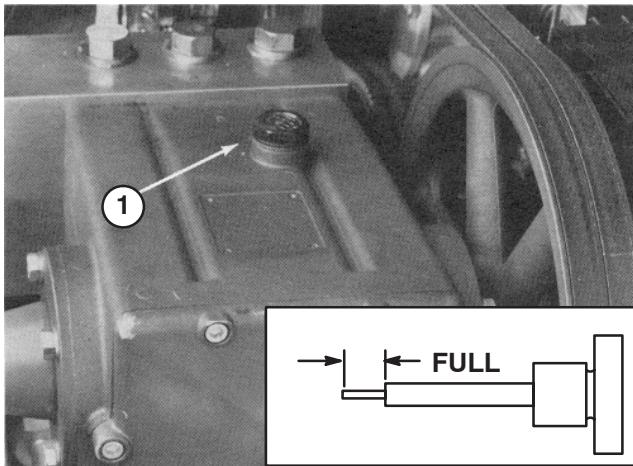

Figure 6
3. Remove the dipstick/filler cap and check the oil level on the dipstick. The fluid level should be up to the FULL mark (Fig. 6).